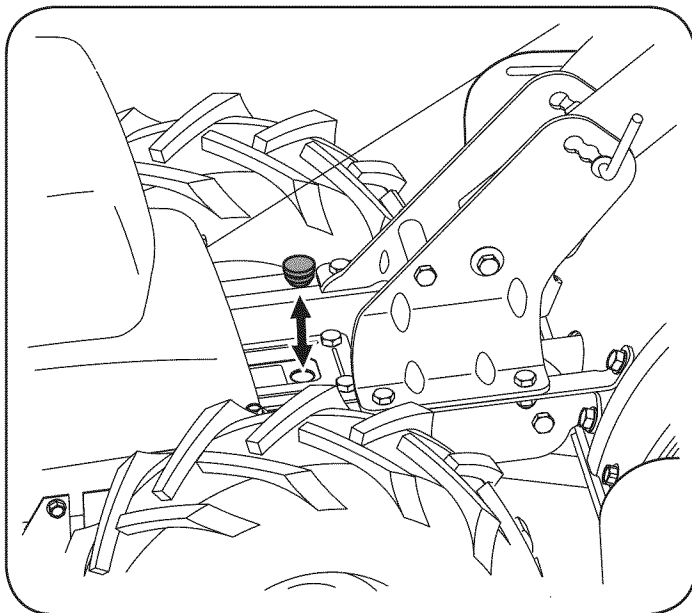

Figure 9
2. Remove the oil fill plug from the transmission housing cover and locate the main drive shaft situated inside the housing. See Figure 9.